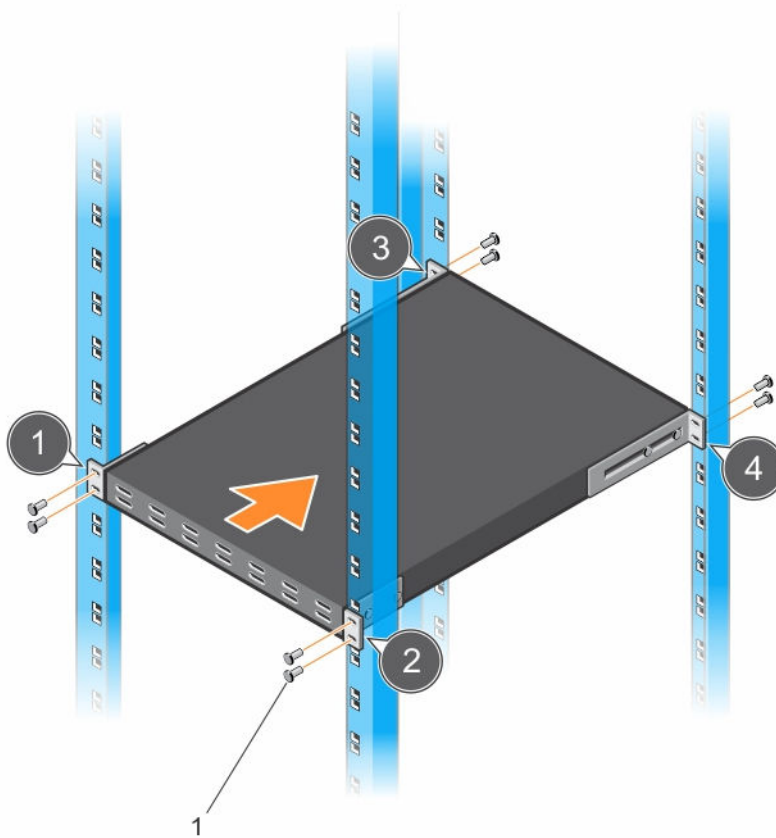

Figure 17. Example of a Mount Rack Tray in a 4-Post Rack
To install a rack mount tray in a rack, follow the instructions provided with the tray kit. Decide where you want to mount the switch in the rack. Position the tray at that height and tighten it to the rack posts using the screws shipped with the tray (items 1 to 4 in Figure 17).